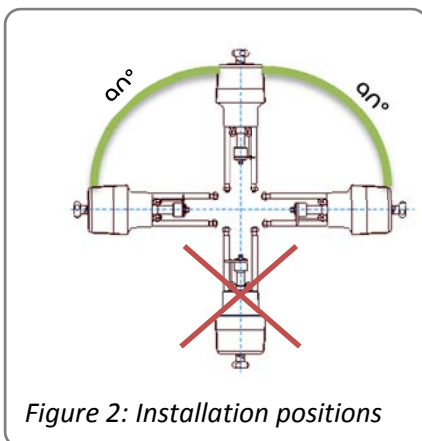

Figure 2: Installation positions
- The actuator can be installed vertically or horizontally or any position in between. The actuator must not be installed with the cover pointing downwards (Fig.2).